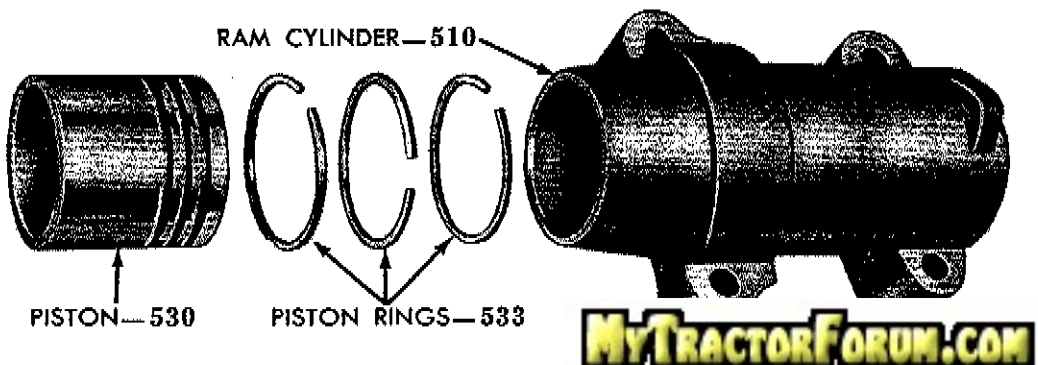

Fig. 20—Ram Cylinder, Disassembled
(1) **ASSEMBLE LIFT ARMS AND SHAFT.** Hold the ram arm in place in the hydraulic unit cover, and install the shaft. Install the two bushings (fig. 20) on the shaft. Install the two lift arms on the shaft, and secure each arm to the shaft with a flat washer, lock washer, and two cap screws. The lift arms should be tightened enough to prevent end play of the shaft. The lift arms should not bind to the extent that they will not settle under their own weight.
(5) **RAM CYLINDER AND PISTON.** Replace the ram cylinder (fig. 20) if it is scored or if the bore is excessively worn. Replace the piston rings when the cylinder is disassembled. Replace the piston if it is scored or cracked.